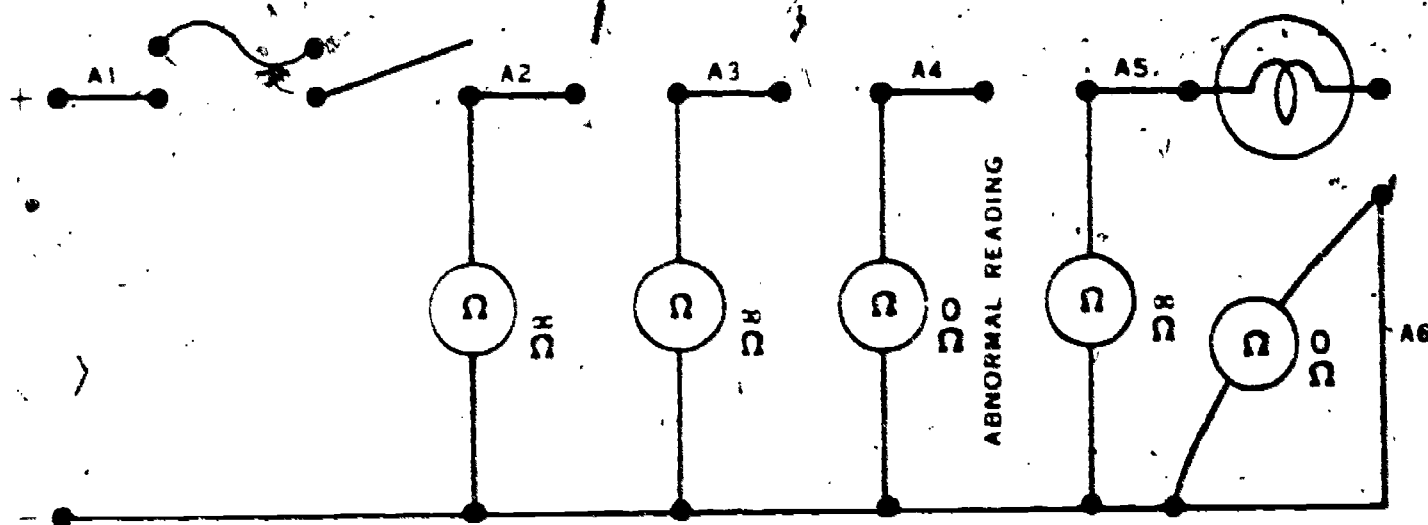

Figure 46. Locating a Direct Short with an Ohmmeter
**LOCATING SHORTS.** Testing devices which indicate continuity are usually used in locating shorts. A voltmeter cannot be used to locate cross shorts or direct shorts. Leads being checked for cross shorts or direct shorts are isolated. Figure 46 shows a direct short being located with an ohmmeter. Continuity has been found between positive wire, A-4, and the negative lead.